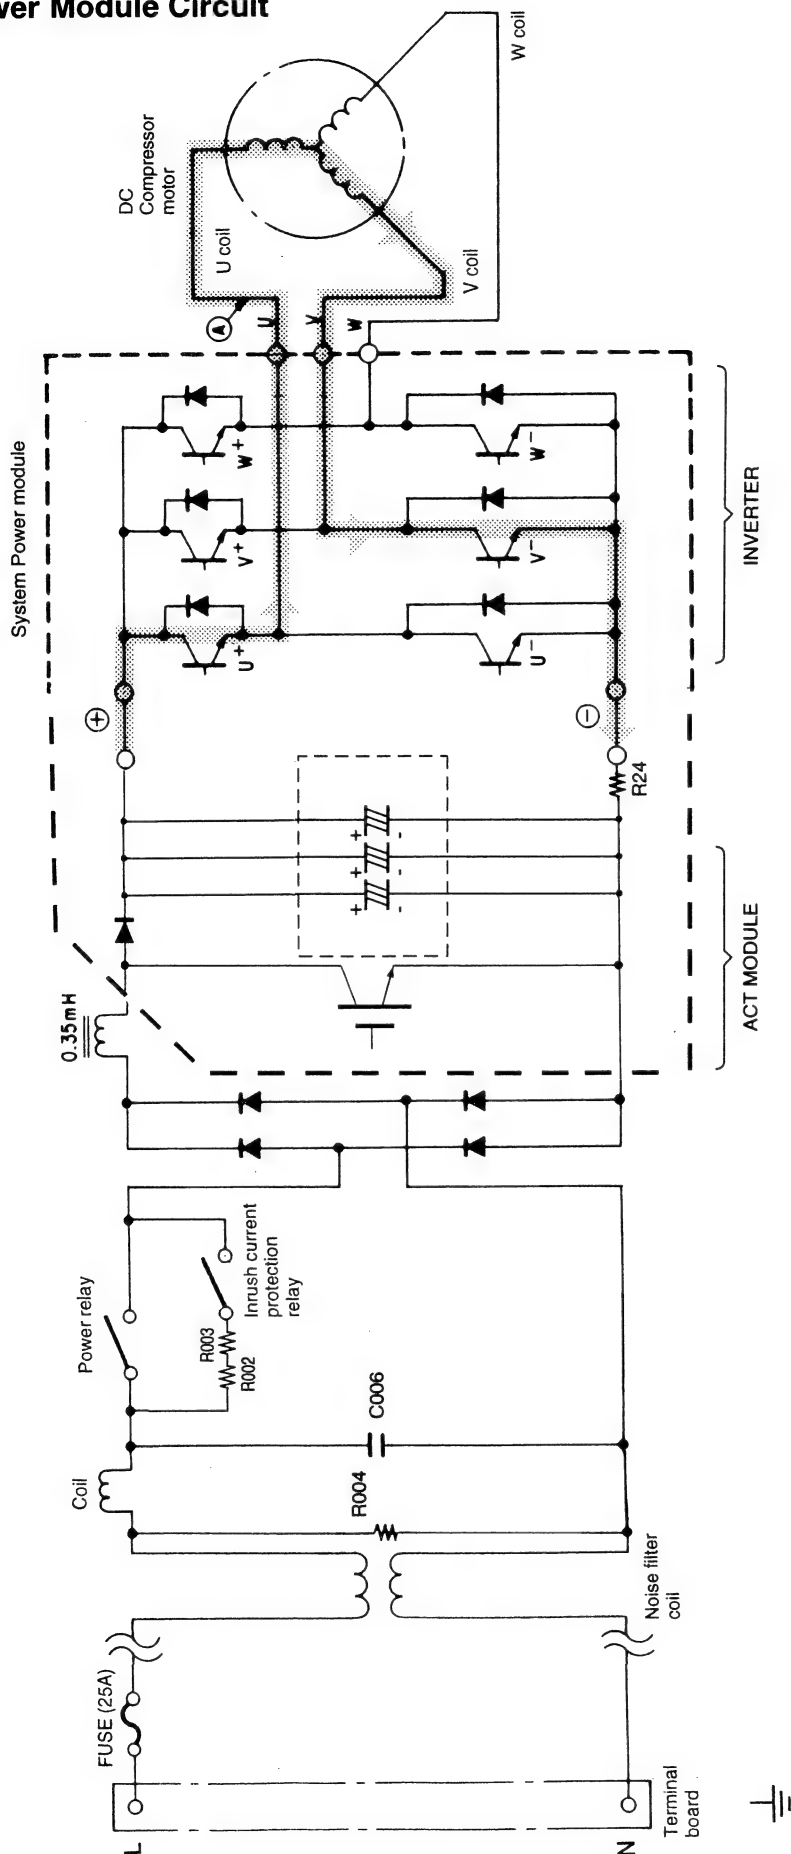
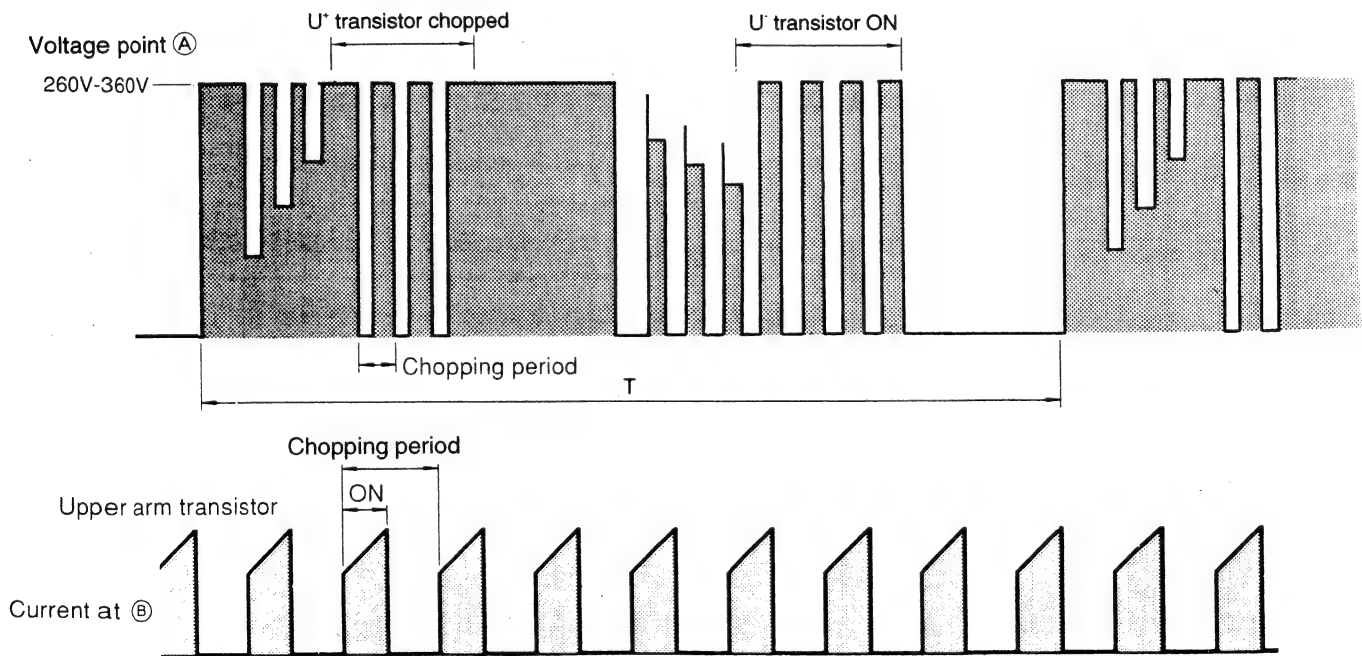
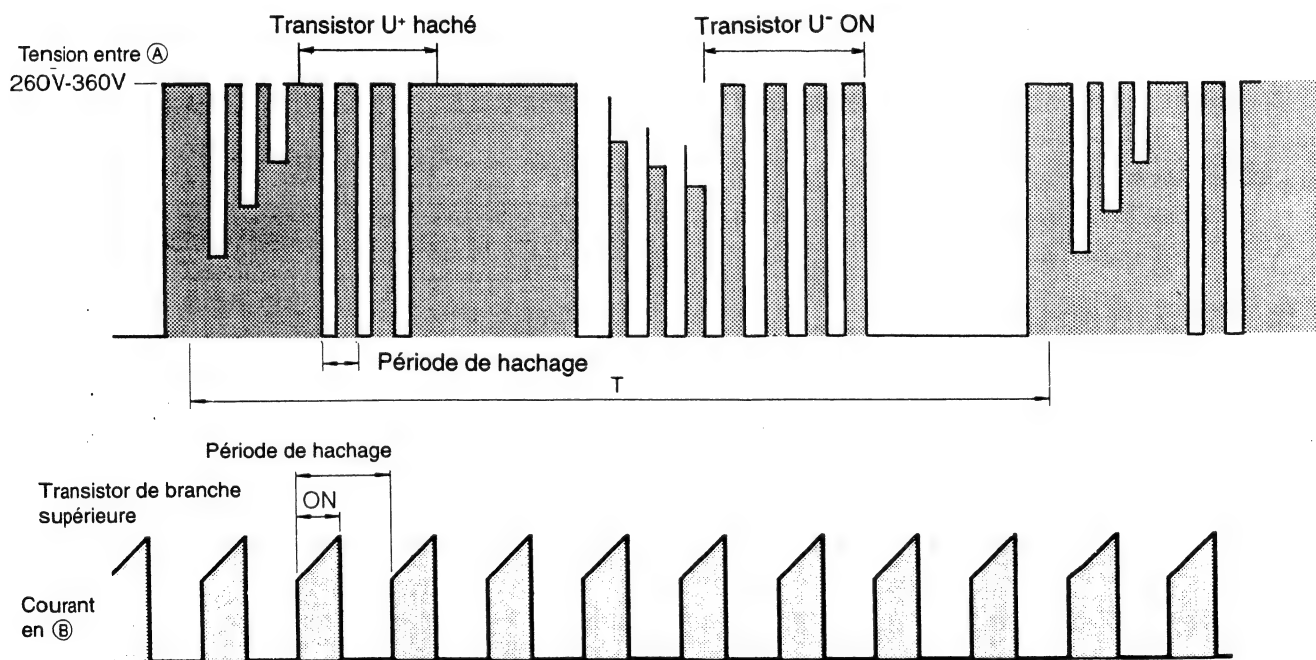

Fig. 3-1 System power module circuit (U+ is ON, V- is ON)
Fig. 3-3 Voltage waveform at each point
Fig. 3-3 Forme d'onde de la tension en chaque point
- Fig.3-1 shows the system power module and its peripheral circuits. (Current ACT module and power module are combined into one unit.) The three transistors on the positive⊕ side are called the upper arm, and the three transistors on the negative⊖ side, the lower arm.
{ \* At point E: U+ is ON, V- is ON (circuit in Fig. 3-1)
- Fig. 3-3 shows voltage/current waveform at each point shown in Figs.3-1 and 3-4. First half of upper arm is chopper, second half is ON, and first half of lower arm is chopper, second half is ON.
- When power is supplied U+ → U-, because of that U+ is chopped, current flows as shown below; ②
- (1) When U+ transistor is ON: U+ transistor → U coil → V coil → V- transistor → DC current detection resistor → Point ② (Fig. 3-1)
[ \* Au point E: U+ est ON, V- est ON (circuit dans la Fig. 3-1)
- La figure 3-3 représente la forme d'onde de la tension à chaque point dans les figures 3-1 et 3-4.
1. Quand le transistor U+ est ON: Transistor U+ → Bobine U → Bobine V → transistor V- → résistance de détection de courant continu → point (B) (Fig. 3-1)
- Since current flows at point ② only when U+ transistor is ON, the current waveform at point ② becomes intermittent waveform as shown in Fig. 3-3. Since current at point ② is approximately proportional to the input current of the air conditioner, input current is controlled by using DC current (Id) detection resistor.